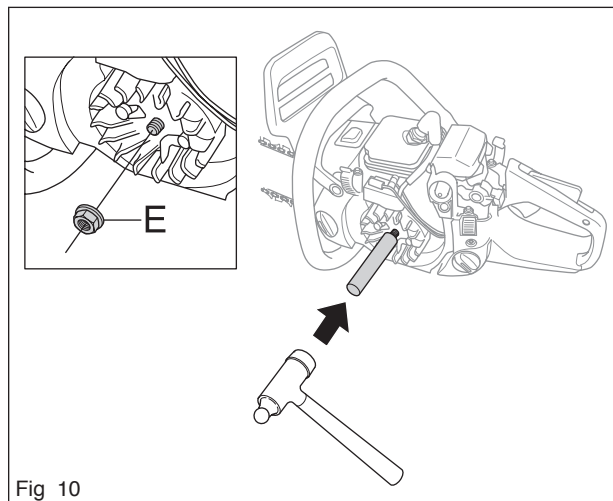

Fig 10
Loosen the flywheel nut (E) using a suitable socket and remove it (see figure 10).
Knock on the punch using a metal mallet until the flywheel releases from the shaft. Remove the punch and the flywheel (see figure 10).